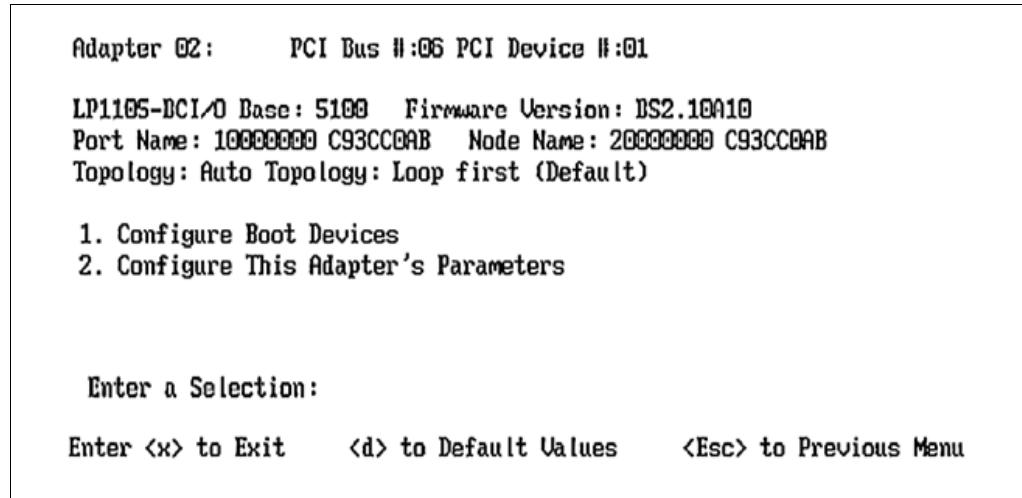

Figure 18-14 Adapter 02 panel
7. Press Esc to return to the main configuration menu. You are now ready to configure your boot devices. Select **1** to configure the boot devices as shown in Figure 18-14.